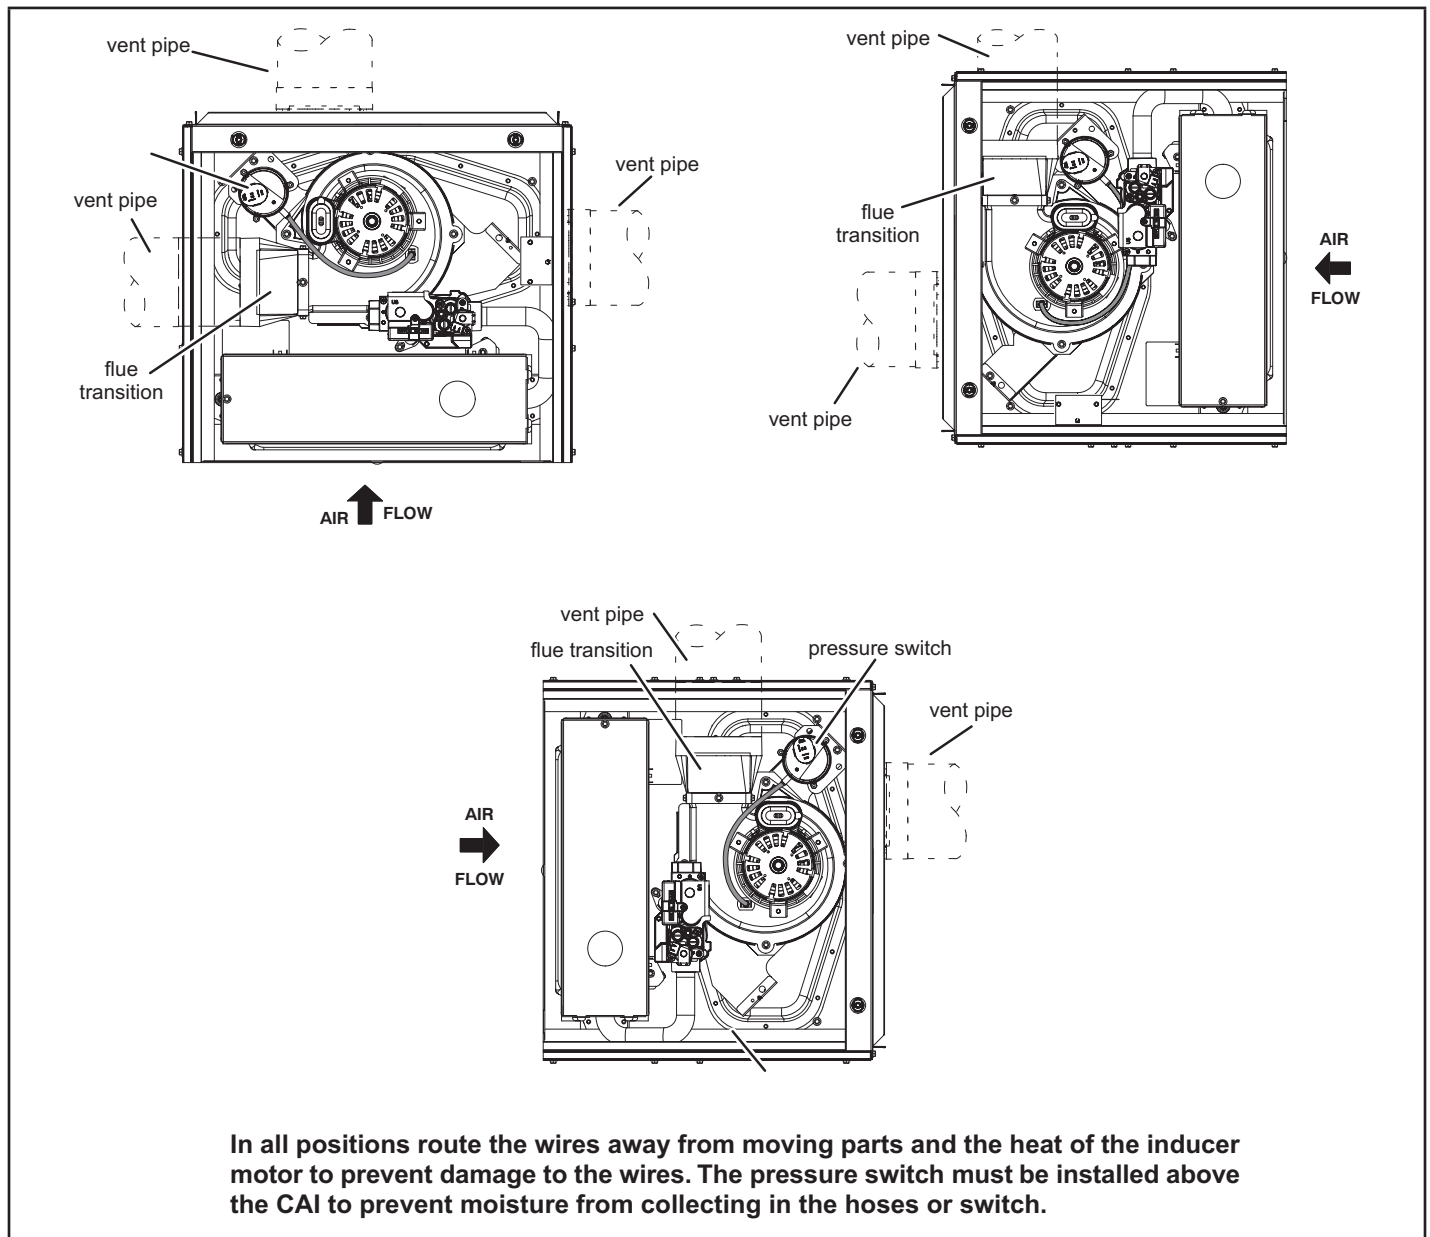

FIGURE 18
The SL280UHV(X) furnace can vent in multiple positions. See FIGURE 18.